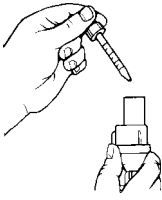

FIGURE 2 - ADDING LIQUID MEDICATION TO THE NEBULIZER
6. Add liquid medication to the nebulizer according to your physician's prescription (**FIGURE 2**).